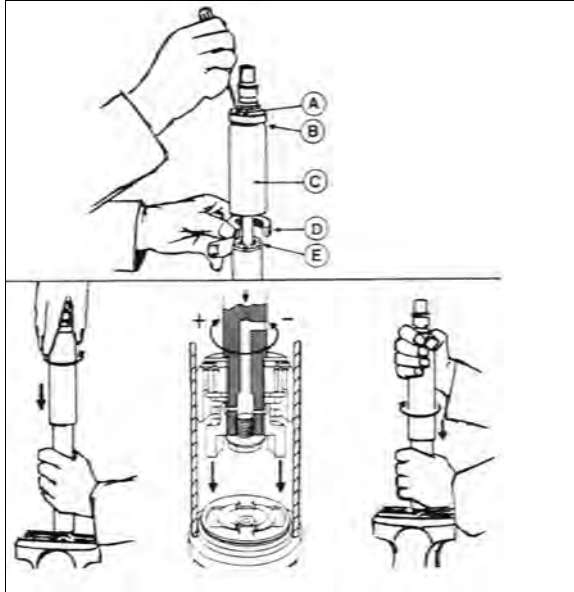

FIGURE 54: DAMPER
To adjust opening and closing cycle speed on damper (Figure 54):
2. Fully close the damper while turning the dust cap or piston rod slowly CCW until it is felt that the cams of the adjusting nut engage in the recesses of the foot valve assembly (Figure 54).
In Figure 54, if there is an indentation (B) in the dust cap (C) and the cover shows two holes (A), the damper is fitted with a bump rubber (D). If so, fully extend the damper and insert a round bar or screwdriver through the holes. Push the bump rubber down and remove. Remove the split plastic collar (E) (if fitted) from the piston rod.
Where a bump rubber was installed, refit same inside the dust cap and by fully closing the damper, the rubber will seat again at top of the dust cap. Refit the split plastic collar E (Figure 54).